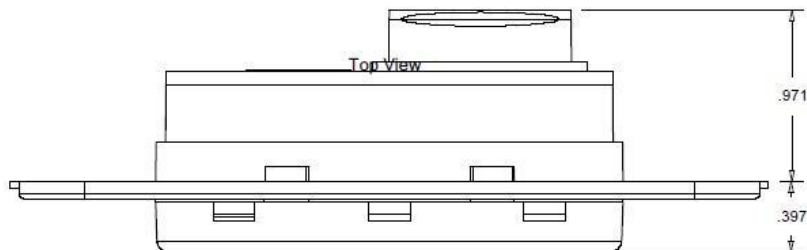

Figure 5 – EasyTouch Display Top View Mounting Dimensions
1. Choose a wall location that has adequate depth (at least 1¹/₂"/25.4mm) behind the wall itself. See Figure 5 for the depth dimensions of the display.